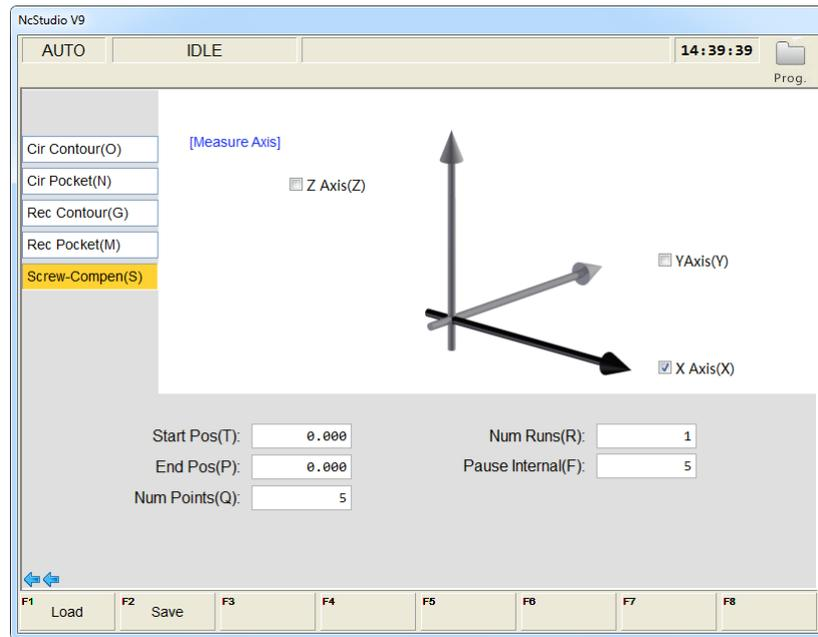

Fig. 3-77 Screw compensation screen
In interface 「Wizard」, press key “S” to access interface 「Screw-Compen (S)」, as shown in Fig. 3-77. You can set relevant parameters for desired effect of machining drawing.